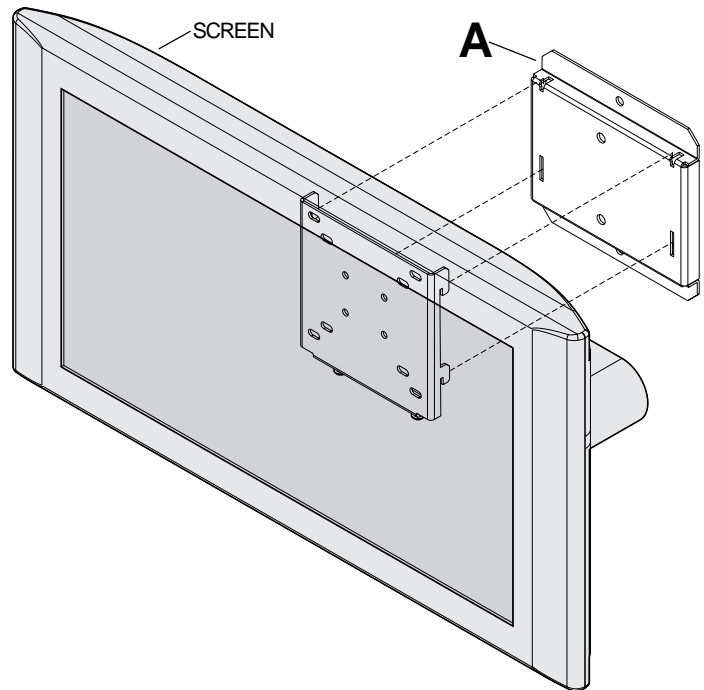

fig. 4.1
- 4 Hook screen onto wall plate (A) figure 4.1. Tighten M5 x 12 mm screws (D), shown in figure 4.2 and detail 1.